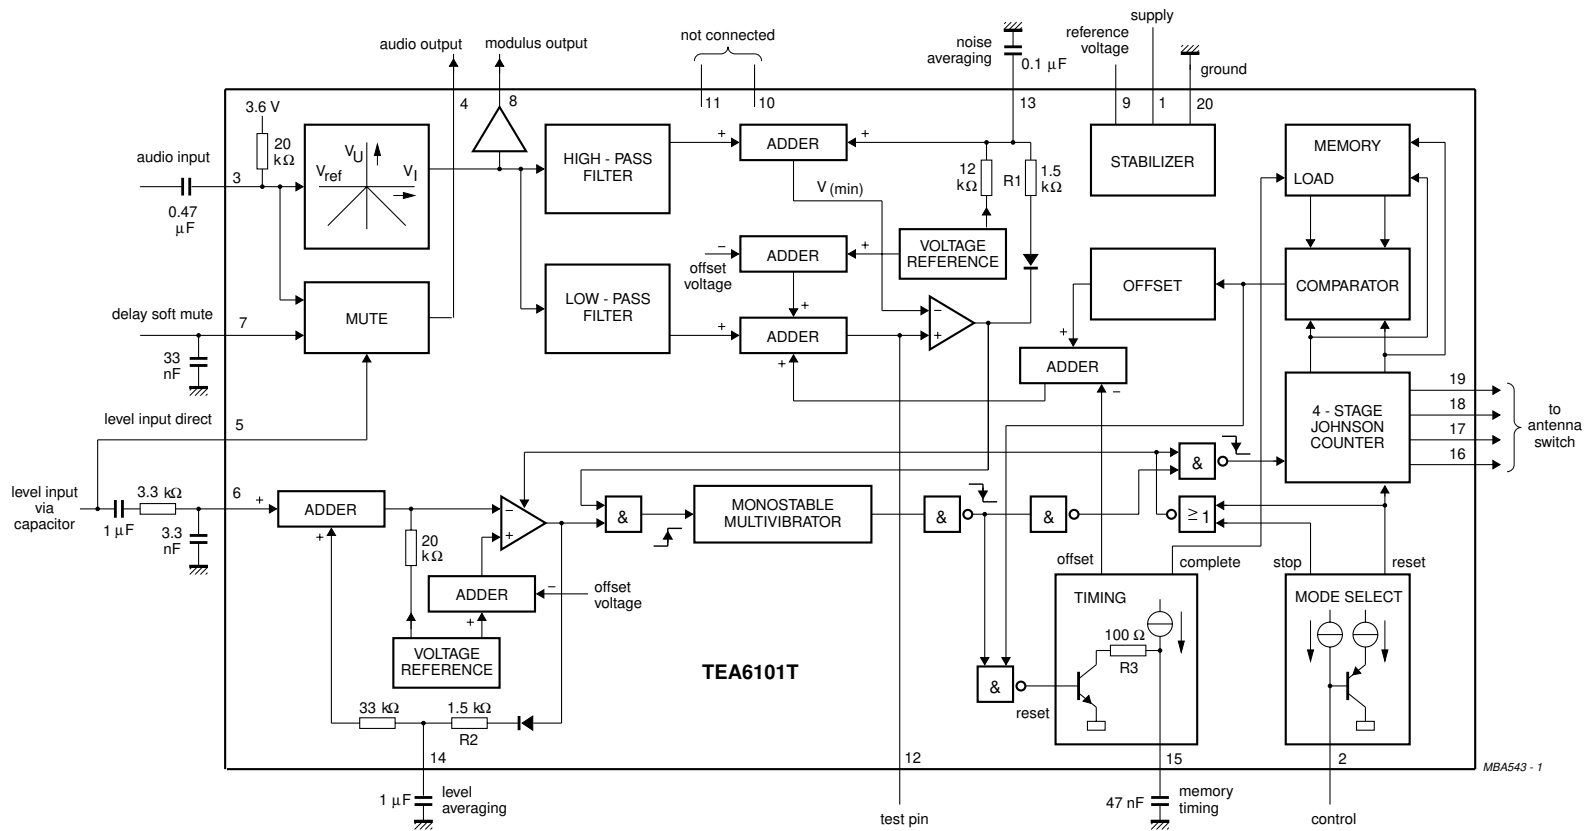

Fig.1 Block diagram.
A rectifier, high pass filter, low pass filter and a comparator are used to detect spikes and noise on the audio signal (see Fig.1). The negative spikes are detected by the rectifier whilst a high pass filter removes the audio signal to leave the high frequency signal components at the negative input to the comparator. The signal at the positive input to the comparator consists of an offset together with an audio signal attenuated by the low pass filter. If the amplitude of the spikes exceed that of the attenuated audio plus offset, the output of the comparator is HIGH.
Measurements using application circuit (Fig 1) at $T_{amb} = 25\text{ }^{\circ}\text{C}$ and $V_P = 8.5\text{ V}$. Voltages with respect to pin 18 (20); pin numbers in parenthesis refer to TEA6101T; all currents positive into the IC unless otherwise specified.